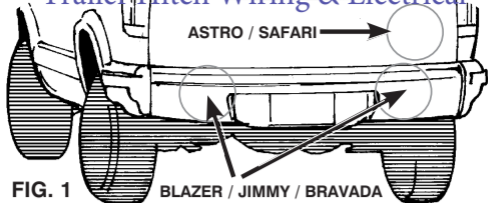

FIG. 1 BLAZER / JIMMY / BRAVADA
1. Locate vehicle trailer wiring harness (C): BLAZER, JIMMY, BRAVADA - 4-door models, on the driver's side - 2-door models on the passenger's side. ASTRO / SAFARI - inside vehicle jack compartment on the passenger side (Fig. 1).